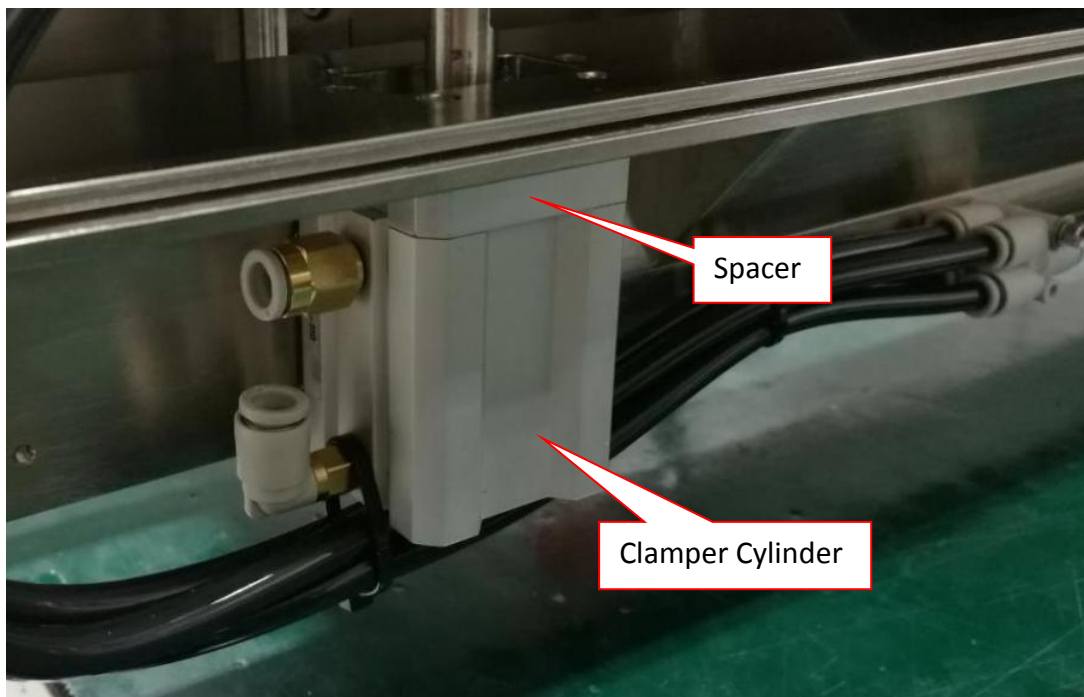

Figure 8 Clamper Cylinder Removal
10. Gentle remove defective Cylinder & Spacer as shown in Figure 8.